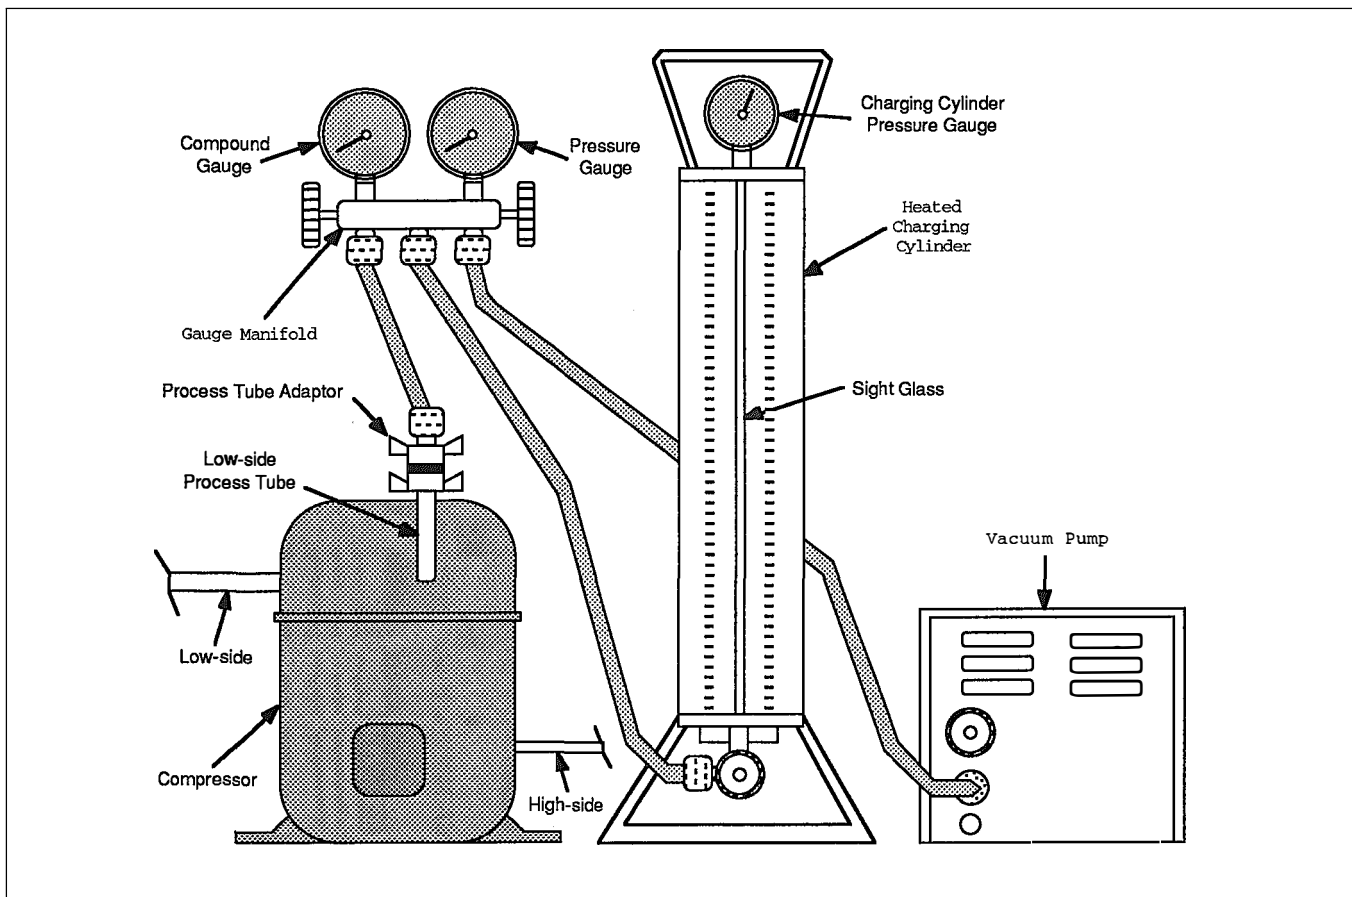

Figure E9 - Installation of Evacuation and Recharging Equipment
3. Attach refrigeration service gauge manifold to system as follows (refer to Figure E9):